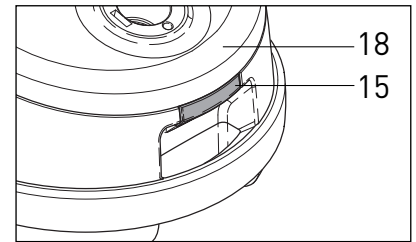
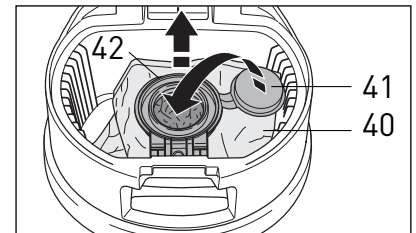

Figure 20
Figure 21
The Turbo nozzle (38) has an air-driven rotating brush for gentle brushing of carpets. The Turbo nozzle can be adjusted for high and low pile carpet. To adjust the head for high pile carpet, push the slider button (39) to the right. For low pile carpet, push the slider button (39) to the left. **The slider in Figure 21 is set in the low pile position.** Remove the Turbo nozzle from the telescopic tube to clean. Remove fibers and hair from the brush manually.
Changing the Filter Bag - Figures 20, 21, 22, 23 & 24
To change the filter bag (40), switch off the power and unplug the vacuum. Lift the cover release catch (#15, figure 20) and raise the filter bag cover (18). Seal the filter bag with the sealing cap (41). Lift the filter bag out of the holder by tilting the green collar (42) up and pulling it out of the holder as shown in figure 21.